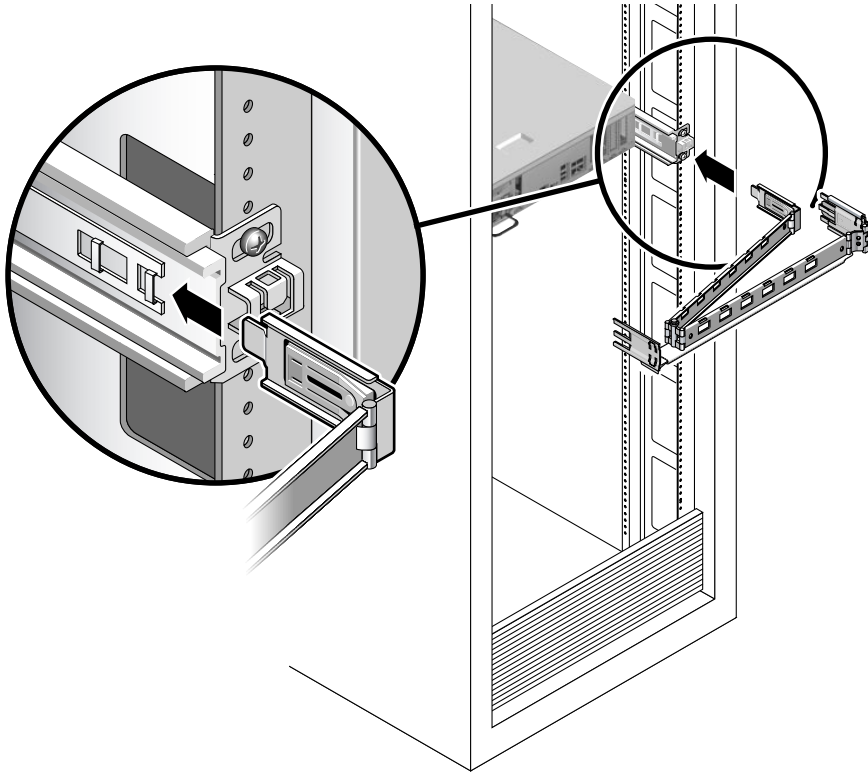

FIGURE 2-9 Mounting the Inner CMA Connector
2. Insert the smaller extension into the clip located at the end of the mounting bracket (FIGURE 2-9).